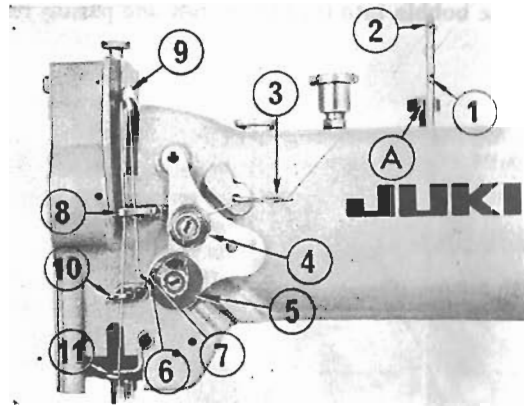

Fig. 10
### 10. How to thread the machine (Fig. 10, 11)
The pressure of the presser foot is adjusted by the presser foot adjusting screw (Fig. 10 ④) atop the arm. To increase the pressure, turn this screw to right and to weaken the pressure, turn it to left.